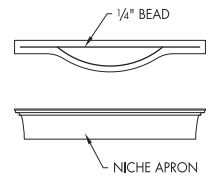

FIGURE 6
6. Apply a 1/4" bead of polyurethane construction adhesive along the top edge of the Niche apron (**SEE FIGURE 6**).